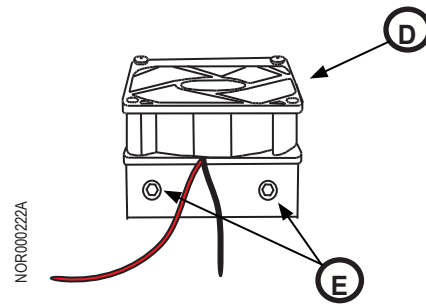

Fig. 5 - Fan Mounting
2. On back of refrigerator, remove mounting screws (Fig.5,E) (2x) from fan. Remove fan / bracket assembly (Fig.5,D) and lay aside.